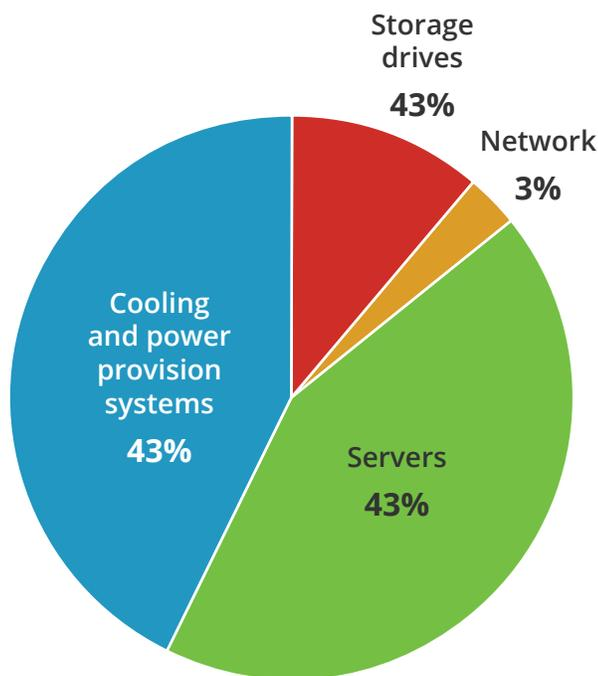

Figure 1. Fraction of U.S. data center electricity use in 2014, by end use. Source: Shehabi 2016.
This is where immersion cooling comes into play. According to a recent study, on average, servers and cooling systems account for the most significant shares of direct electricity use in data centers, followed by storage drives and network devices (Figure 1). Some of the world's largest data centers can contain tens of thousands of IT devices and require over 100 megawatts (MW) of power capacity to power around 80,000 U.S. households (U.S. DOE 2020).